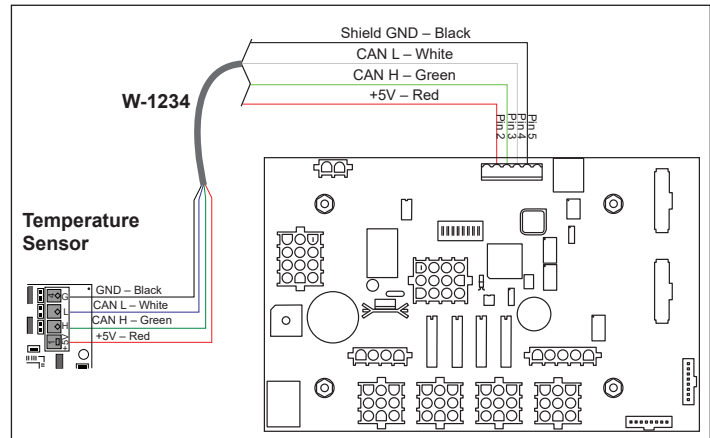

Figure 9: CAN Temperature Sensor Connections
2. Use a 2-pair 22 AWG individually shielded cable to connect the sensor to the 8-position terminal block in the display labeled CAN (TB1). Connect to the host display driver as shown in **Figure 9**.
5. Connect the cable coming from the host display driver to the temperature sensor board in the temperature sensor housing. Refer to **Figure 9** and table at right for wiring locations at the sensor and the driver.